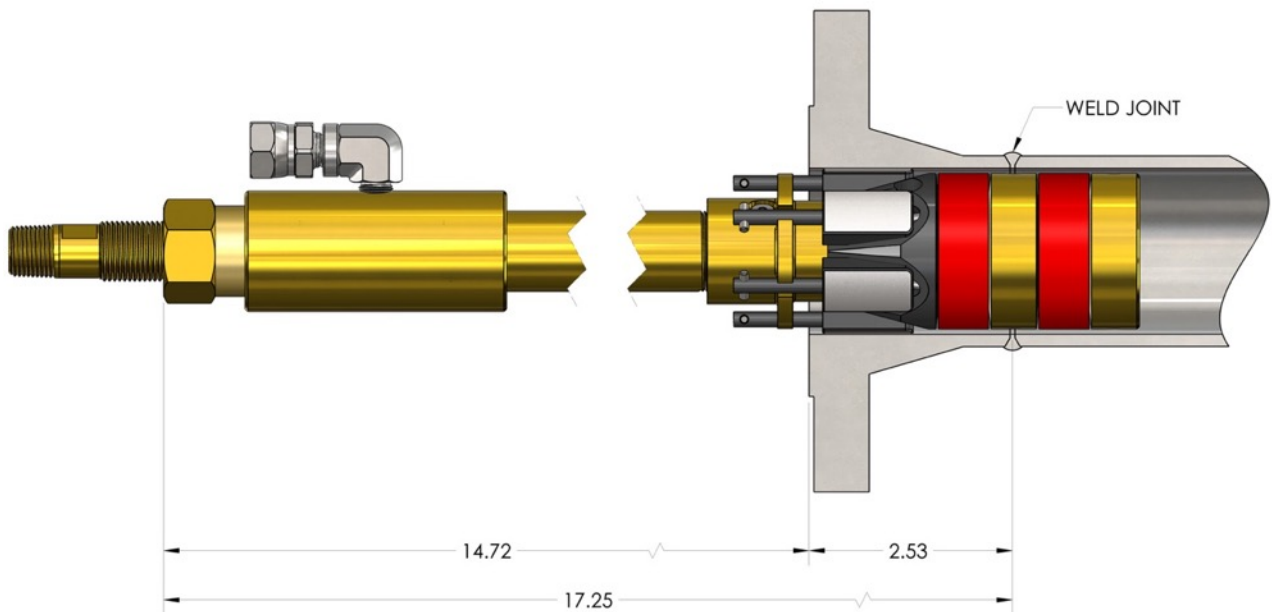

Figure 8: Insertion Depth for Testing Weld
5. From the calculation, and as shown in Figure 8, the plug should be inserted into the fitting until the distance from the top of the **Compression Hex Nut(21)** to the end of the fitting is 14.72”.